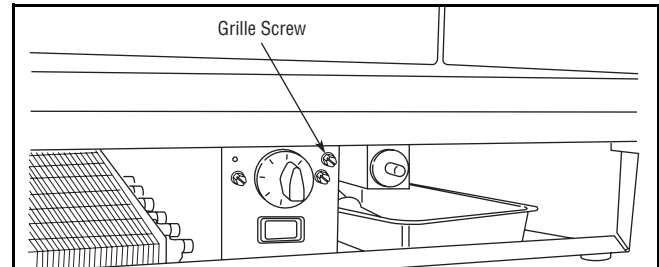

Figure 12
1. Locate and remove the grille screws from cabinet, using a standard blade screwdriver (or a 1/4" nutdriver) (**Figure 12**).